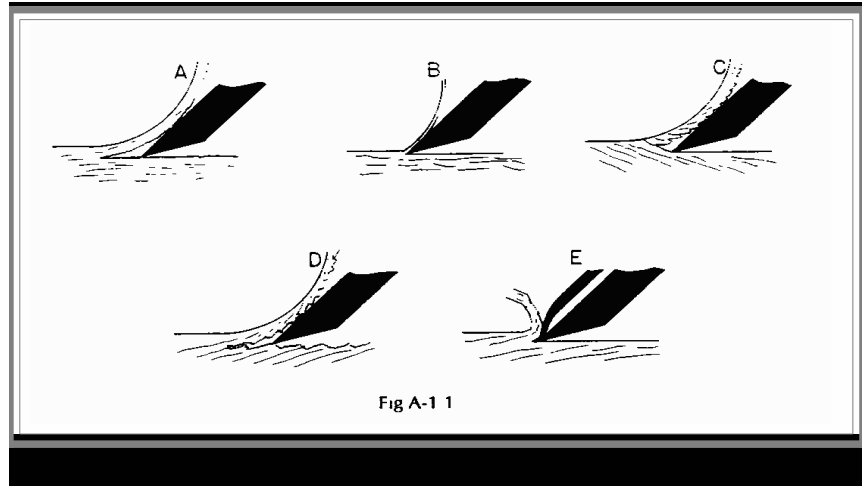

Fig.A-1:1
A blade cutting wood must move wood aside to make room for its passage. The shaving must be bent and levered out of the way as it slides up the face of the blade. If the cut is deep, the force needed to bend the shaving is greater than that required to separate wood fibers, and a split appears in front of the blade (A in Fig.A-1:1). If the shaving is thin, it bends away to let the blade move forward with very little splitting, and a smoother cut results (B).